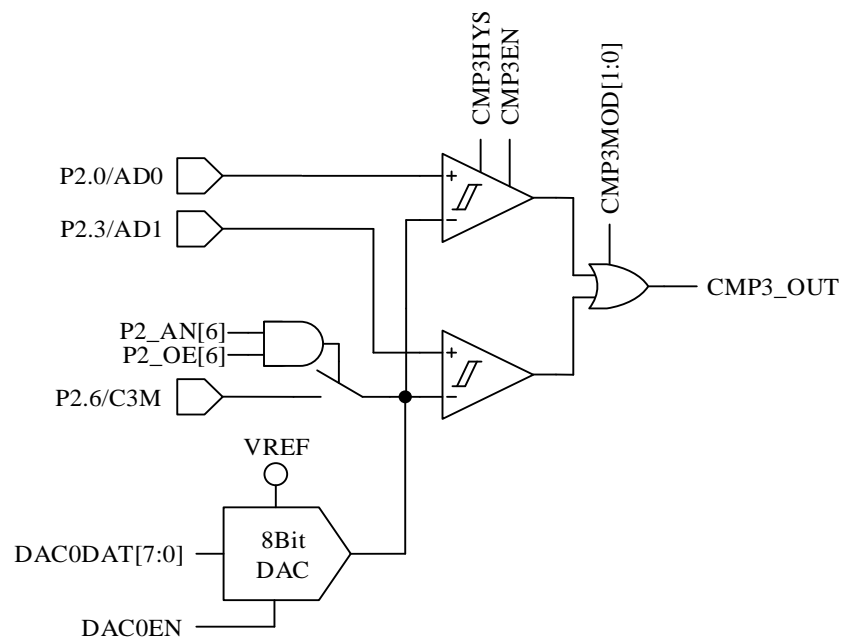

Figure 28-3 Dual-comparator Input Mode
- When CMP_CR1[CMP3MOD] = 01, CMP3 works in dual comparator input mode. The connection of input and output pins are shown in Figure 28-3.